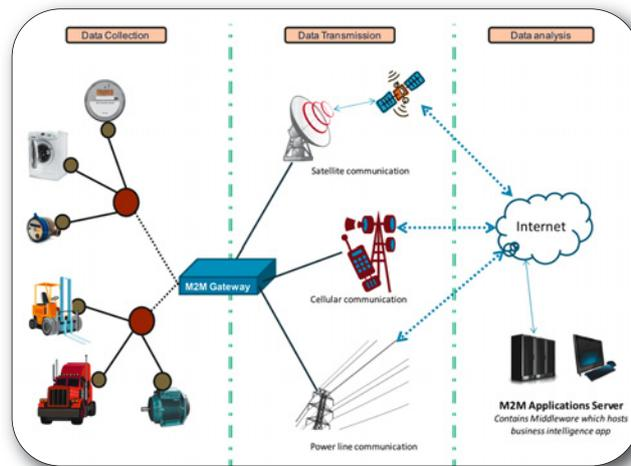

Figure 1. The key elements in M2M communication
■ The new technologies which will introduce smart machine-to-machine (M2M) communication are the high-speed 4G wireless standard and Internet Protocol version 6 (IPv6). Together, these technologies will enable designers to create a world in which smart devices could offer a new level of M2M services. The possibilities include: a smart phone which could receive an alert and location message when its owners car is stolen; a camera which could communicate with a GPS device to suggest local beauty spots; a fridge which could text a reminder to buy more butter; automatic uploading of data from a personal health monitoring device to a GP; and a machine which could send an alert when it needs to be repaired. These, and so many more applications, will all be enabled by smart M2M communications. Figure 1 shows the interaction between the key elements of M2M technology.